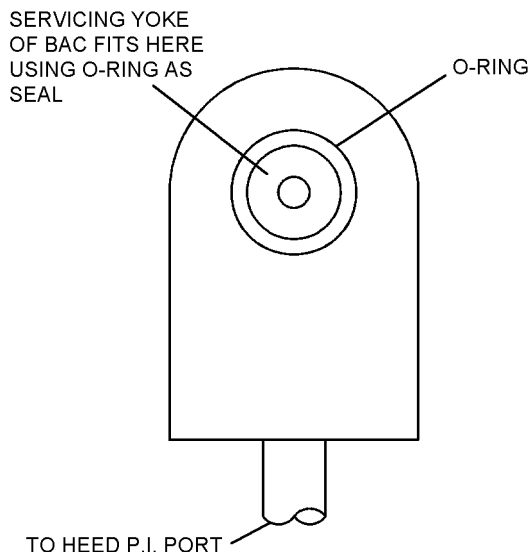

Figure 15-11. BAC Filler Adapter (P/N 8820029-1)
15-55. The air supply in the SRU-36/P is replenished by topping-off or refilling the air cylinder. Topping-off or refilling can be accomplished by direct use of an air compressor charging system or charged breathing air cylinders. However, replenishing the HEED directly from an air compressor is not considered an efficient method. The preferred methods are using a portable Breathing Air Cylinder (BAC) (figure 15-7), SCUBA Air Cylinder, or a cascading system of supply flasks or tanks (figure 15-11).
4. Check BAC filler adapter (figure 15-11) to ensure O-rings are properly seated before connecting with HEED regulator and BAC.